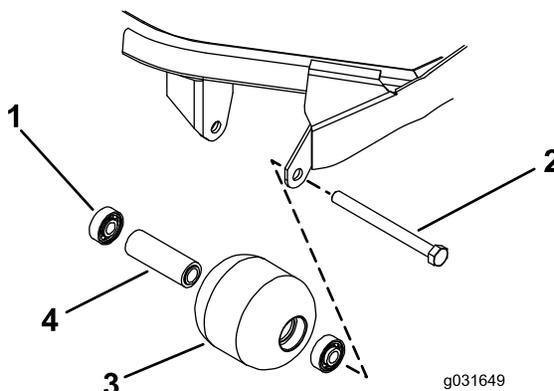

Figure 69
1. Remove the roller-mounting bolt (Figure 69).
- Inspect the roller housing, bearings, and bearing spacer for damage (Figure 69).
- Pressing on the outer race only or equally on the inner and outer race, press the first bearing into the roller housing (Figure 69).
- Insert the spacer (Figure 69).
- Pressing on outer race only or equally on the inner and outer race, press the second bearing into the roller housing until it contacts the spacer (Figure 69).